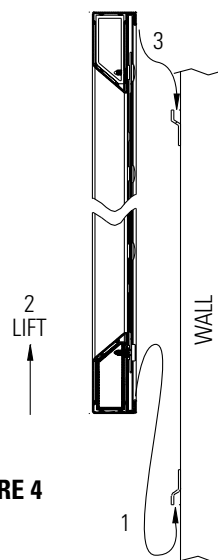

FIGURE 4
3. Attach the small wall bracket to the wall. Refer to Figure 4 for proper orientation. Do not tighten the screws completely. The bracket should slide up and down easily.
5. Hang the screen on the brackets by hooking the bottom of the frame onto the lower wall bracket and lift up until you can hook the top of the frame on the top bracket. Push down on the frame to seat it on the brackets. Refer to Figure 4.